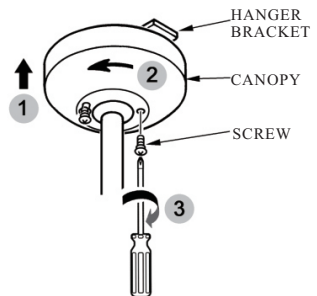

FIG.9
4. Mount the canopy on the hanger bracket and tighten the screws. (see Fig.9)